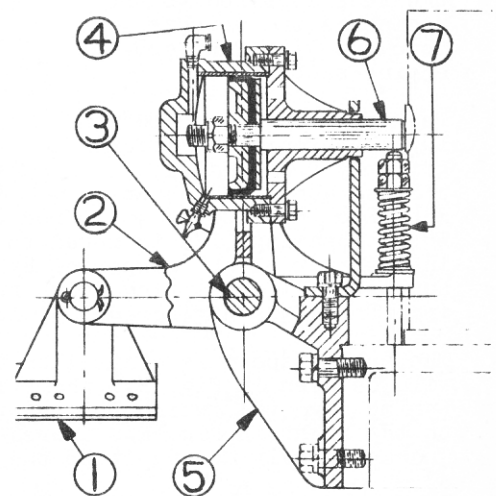

FIG. R-7
The flywheel brake assembly is shown in Fig. R-7. Brake shoe (1) which is faced with brake lining, is carried by the horizontal arm of crank shaped lever (2). This lever is mounted on shaft (3), and carries the brake cylinder (4) in trunnions on its vertical arm. Shaft (3) is supported by bracket (5) which is bolted to the after end of the centerframe. The projecting end of the piston rod (6) bears against the compressor cylinder and therefore the piston and rod remain stationary when air is admitted to the cylinder. When the pilot valve is opened and air is admitted to the brake, the cylinder moves relative to the piston. Lever (2) is rotated about its fulcrum, applying the brake to the flywheel and stopping the engine. When the air pressure is relieved the brake shoe is withdrawn from the flywheel by spring (7), which bears against a third arm on lever (2).